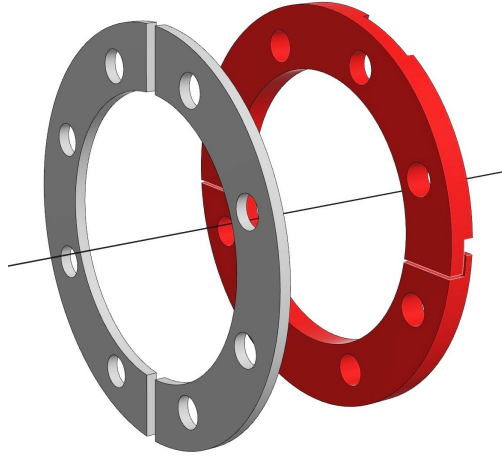

Figure 8
- **Pressure rings (item 3):**
- The pressure rings consist of 2 components of equal size. They are to be mounted 90° offset to the insulating rings (see figure 8). The pressure rings transfer the surface pressure from the screw forces to the insulating rings and must not be changed in any way.